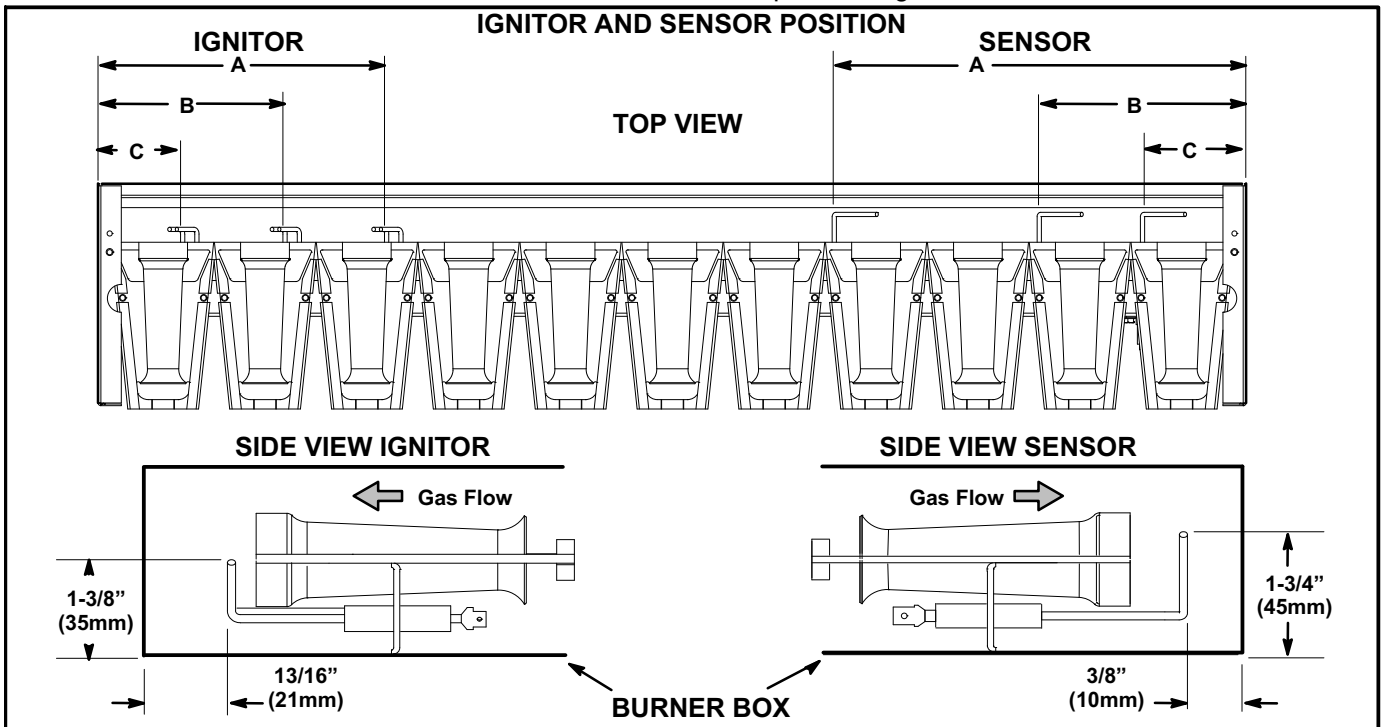

FIGURE 42
- 5- Check the alignment of the ignitor and the sensor as shown in figure 42 and table 21.